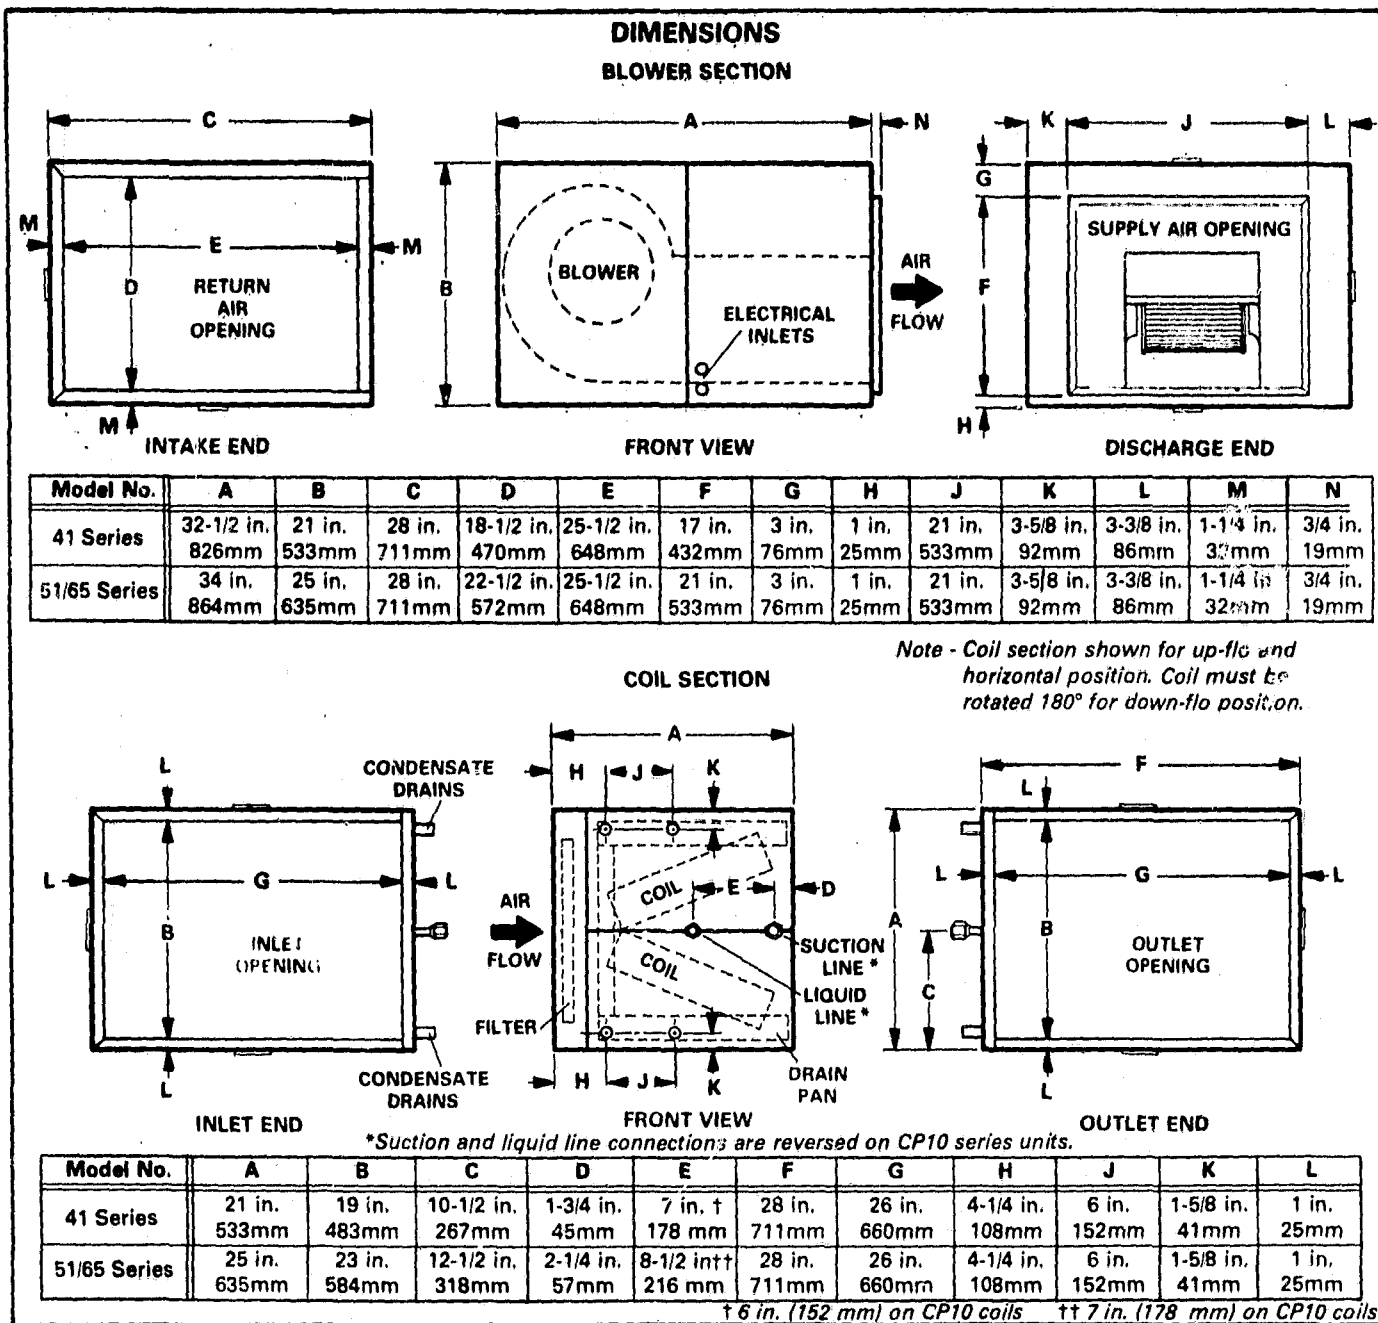
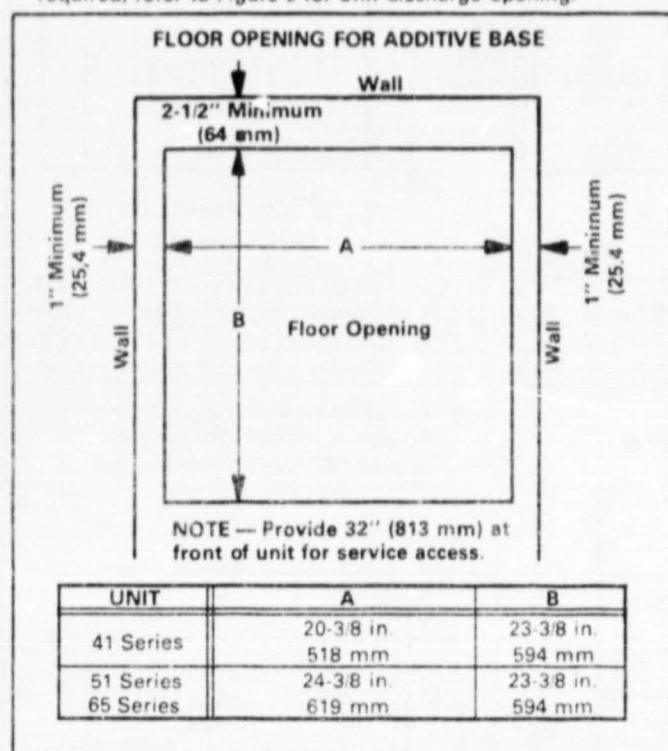

FIGURE 2
FIGURE 3
Refer to Figure 2 for dimensions of coil/filter and blower sections.
- 1 - Cut discharge air opening in floor. See Figure 3 for dimensions of floor opening when additive base is used. If additive base is not required, refer to Figure 2 for unit discharge opening.